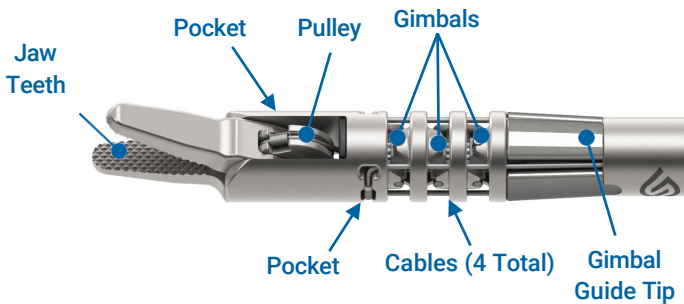

FIGURE 13: Take caution to brush these areas well.
**NOTE:** Be sure to brush all crevices of the end effector, paying close attention to the areas in **FIGURE 13**.